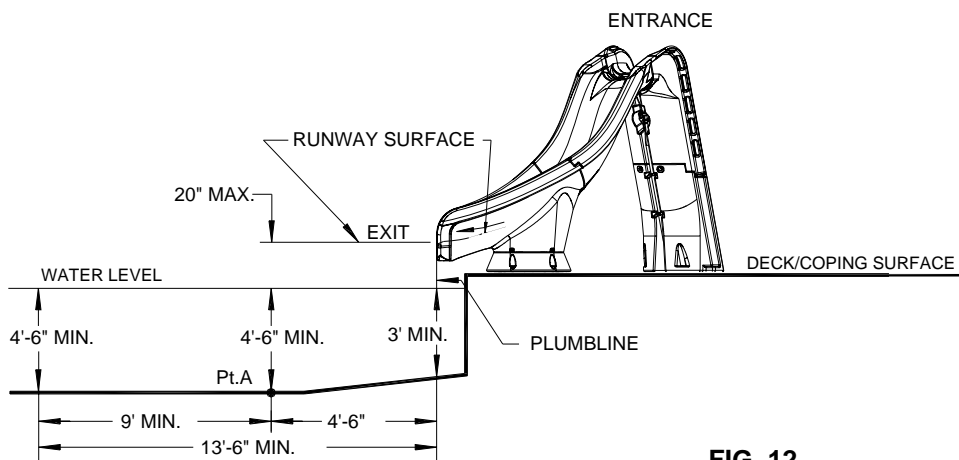

FIG. 12
- A. The slide exit runway surface shall not exceed twenty inches (20") above the water surface as shown in **FIG. 12**.
- C. The minimum depth of water below the exit lip of the slide shall be three feet (3') and increase to four feet six inches (4'-6") at Pt. A, which is a distance of four feet six inches (4'-6") from the exit lip of the slide as shown in **FIG. 12**.
- D. A minimum depth of four feet six inches (4'-6") shall be maintained at a distance of nine feet (9') along the extended centerline of the slide from Pt. A. as shown in **FIG. 12**.